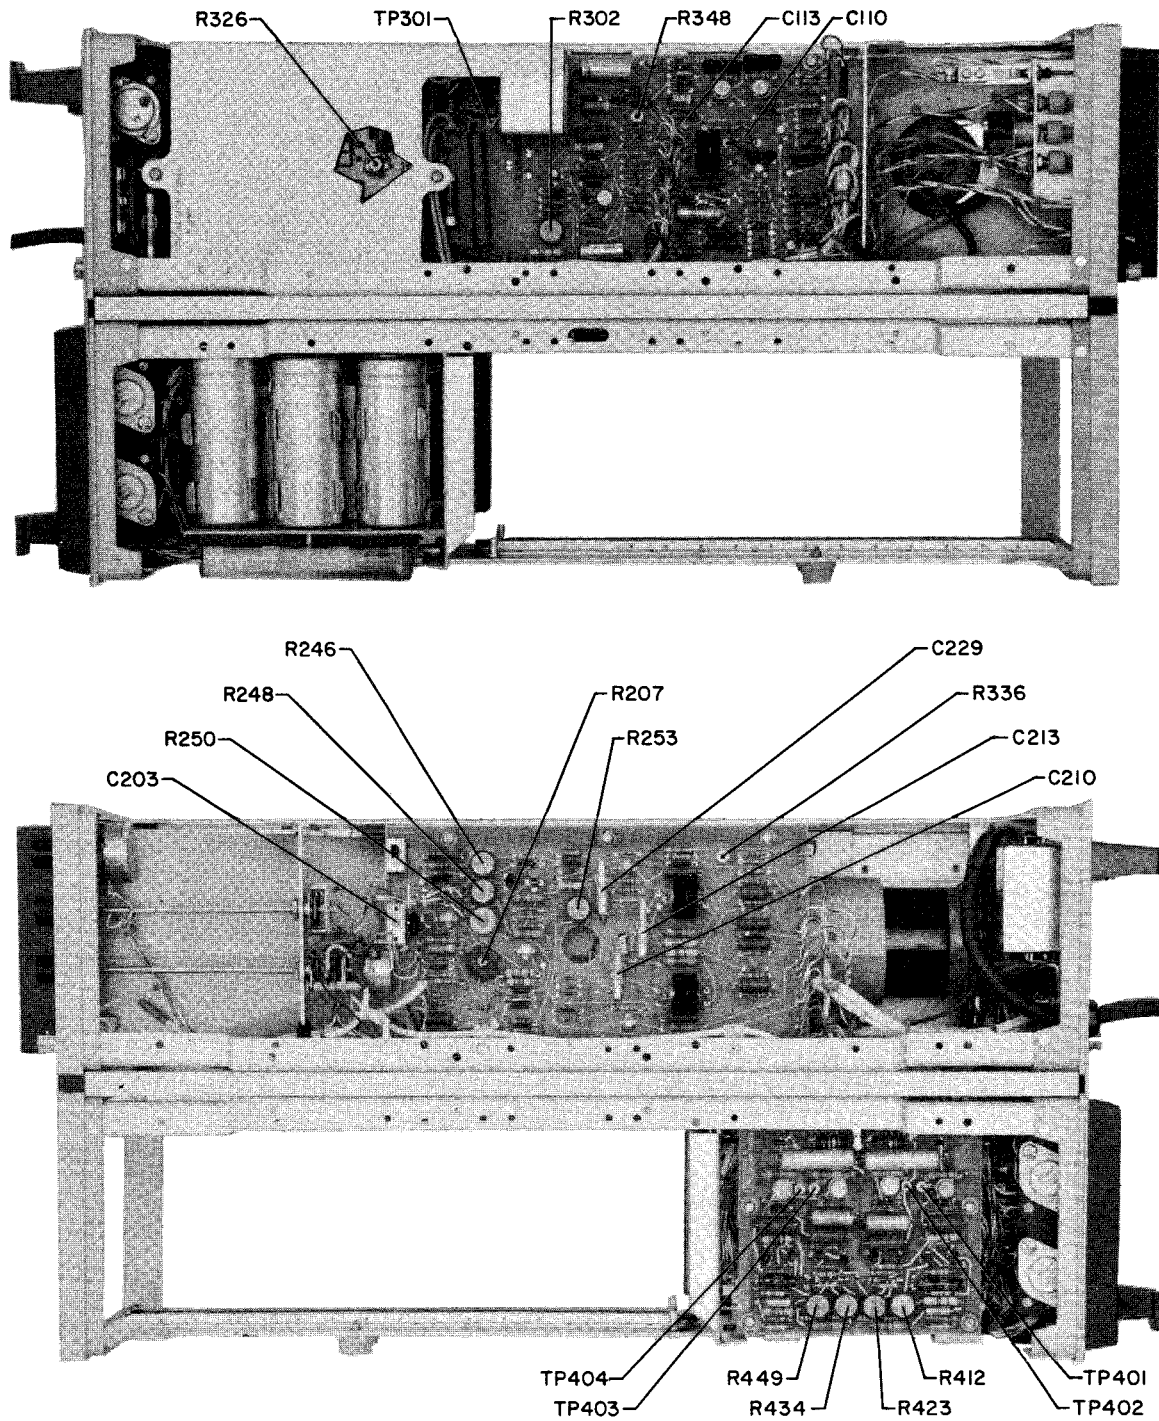

Figure 5-2. Oscilloscope Assembly Adjustments and Test Points
b. LOW VOLTAGE POWER SUPPLY ADJUSTMENT. - The low voltage power supply adjustment and test points are shown in figures 5-2, 5-19 and 5-30.
(1) TEST EQUIPMENT. - Digital Voltmeter, Model 3440A with 3441A.
(2) TEST SETUP.
c. HIGH VOLTAGE POWER SUPPLY ADJUSTMENT. - The high voltage power supply adjustment and test points are shown in figures 5-2, 5-13 and 5-30.
(1) TEST EQUIPMENT.
e. INTENSITY LIMIT ADJUSTMENT. - The intensity limit adjustment is shown in figures 5-2, 5-17 and 5-30.
(1) TEST SETUP.
f. FLOOD GUN ADJUSTMENT, - The flood gun adjustment is shown in figures 5-2, 5-13 and 5-30.
g. TRACE ALIGNMENT. - The trace alignment adjustment is shown in figures 5-2, 5-15 and 5-30.
(1) TEST SET UP.
h. GATE AMPLIFIER RESPONSE ADJUSTMENT. - The gate amplifier response adjustment and test points are shown in figures 5-2, 5-13 and 5-30.
(a) Connect Test Oscilloscope through a 10:1 Divider Probe to collector of Q103. (See figures 5-2 and 5-13).
i. HORIZONTAL AMPLIFIER DC BALANCE ADJUSTMENT. - The horizontal amplifier dc balance adjustment is shown in figures 5-2, 5-15, and 5-30.
j. HORIZONTAL AMPLIFIER VERNIER BALANCE ADJUSTMENT. - The horizontal amplifier vernier balance adjustment is shown in figures 5-2, 5-15 and 5-30.